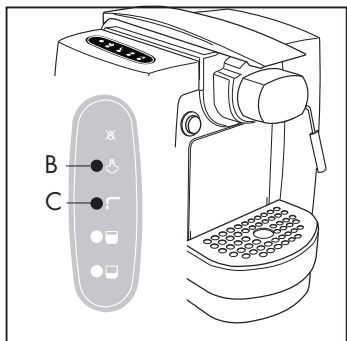

Fig. 13
- Press the steam control knob (B) (Fig. 13).